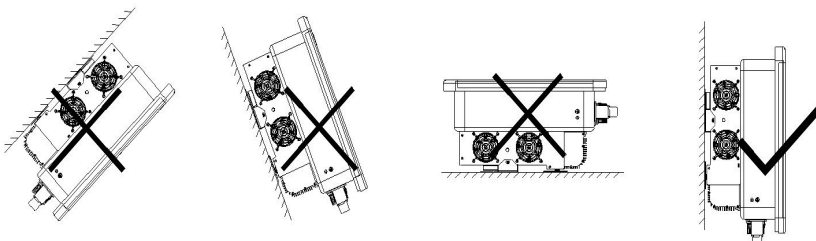

Figure 2 Installation position
- (1) The environment temperature is between -25°C ~ 60°C ;
- (2) The installation surface should be perpendicular to the horizontal line. Refer to Figure 2.